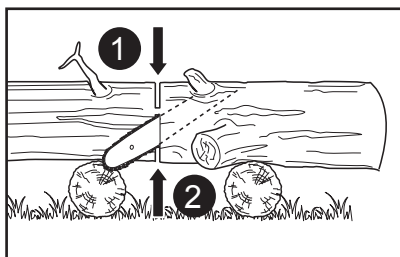

Fig. 32
3. When the log is supported on both ends (Fig. 32), cut 1/3 the diameter from the top (overbuck). Then make the finished cut by underbucking the lower 2/3 to meet the first cut.